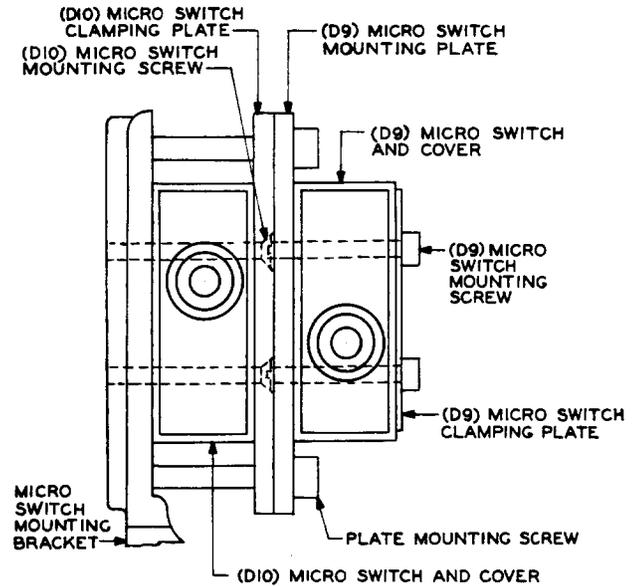

Fig. 9 - Selector Handle Micro Switches
7.04 Referring to Fig. 9, remove the (D9) Micro Switch mounting plate using the R-2485 wrench and allow the (D9) Micro Switch and mounting plate to hang by its leads. Then, remove the (D10) Micro Switch and clamping plate from the bracket using the 3-inch C screwdriver. Lift the cover off the Micro Switch and slide it back on the leads. Connect and solder the orange lead from the counter to the Micro Switch terminal marked NORM CLOSED CIRCUIT. Remount the cover on the (D10) Micro Switch. Remount the (D10) Micro Switch and clamping plate on the bracket and securely tighten the screws. Remount the (D9) Micro Switch mounting plate with the Micro Switch and securely tighten the screws.